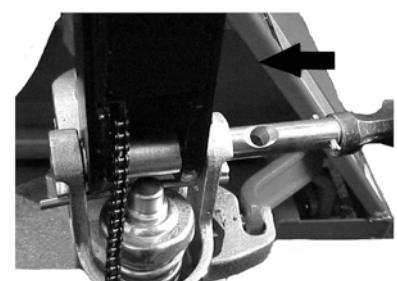

Fig. 6: Axle assembling
- a) Insert the tiller arm(1) into the pump piston, then use a hammer to insert the axle with hole into the hydraulic pump and tiller arm (fig.6 ).